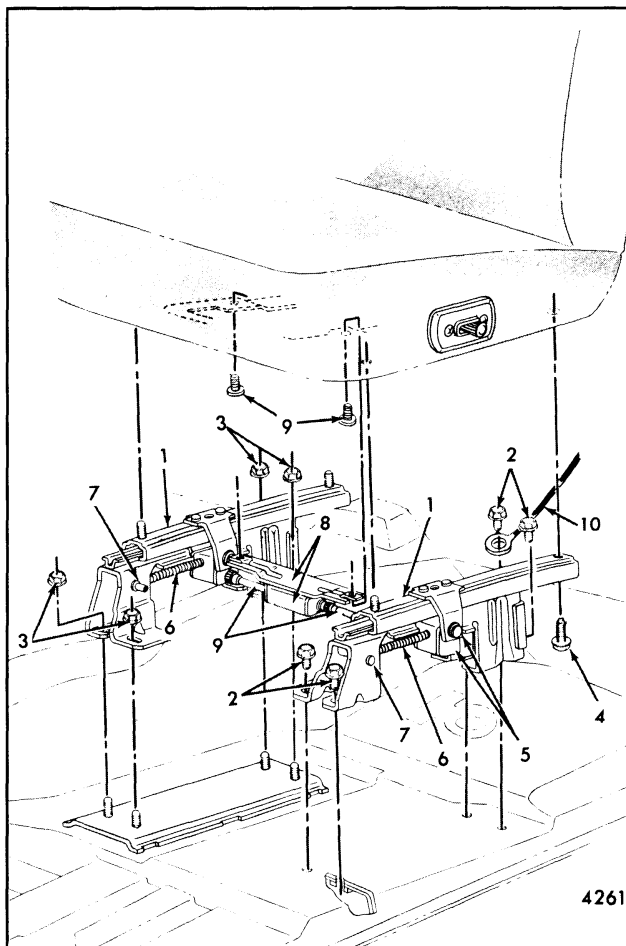

Fig. 9-10-Power Operated Horizontal Adjuster - 60-40, 50-50 and 40-40 Seats
5. Fig. 9-10-Power Horizontal 60-40, 50-50 and 40-40 Drivers Seat